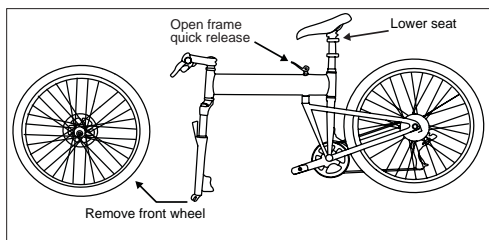

Fig. 21: Remove the front wheel & lower seat.
2. Open the CLIX front wheel quick release lever, then squeeze the cup and quick release lever together using the same motion used when operating a syringe (Fig. 14.b) while removing the wheel (Fig. 21).
4. Open the frame quick release lever (Fig. 21).